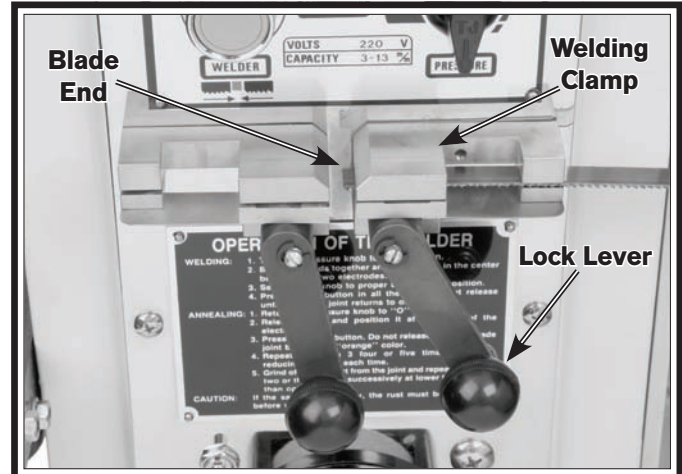

Figure 27. Blade end properly position in welding clamp and locked in place.
6. Position the back of one blade end evenly against the back of the welding clamp so that the end is midway between the two clamps, then rotate the lock lever as far up as possible to hold the blade end in place (see **Figure 27**).